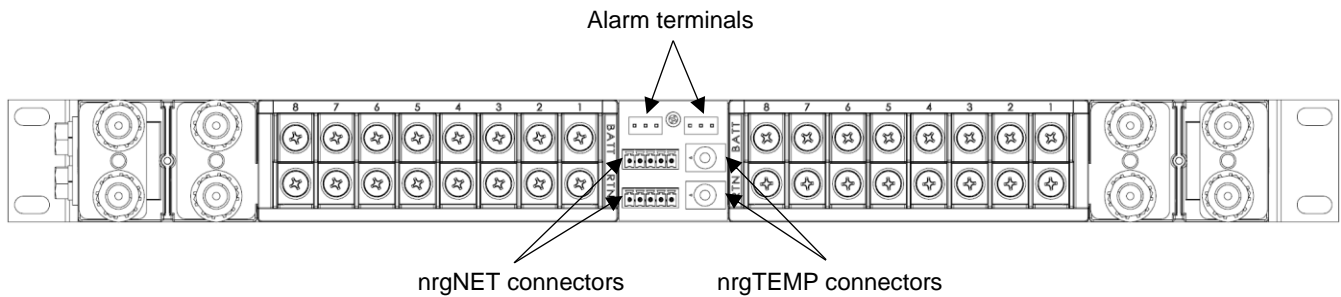

Fig. 2-14: nrg250TPA08 Alarm Terminals
34. The alarm terminals, nrgTEMP connectors, and nrgNET connectors are located in the rear center of the panel. Refer to Fig. 2-14.